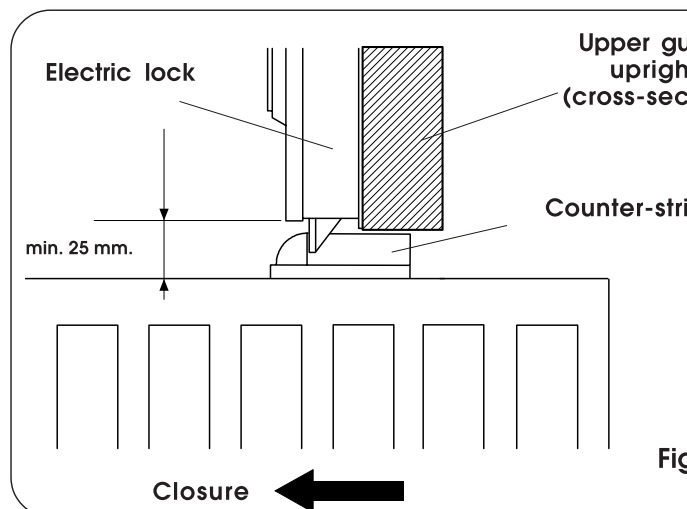

Fig. 19
- Make sure that the free space between the lower edge of the guide upright and the upper edge of the gate is sufficient to fit the counter-strike and enable correct operation of the bolt (see fig. 19).